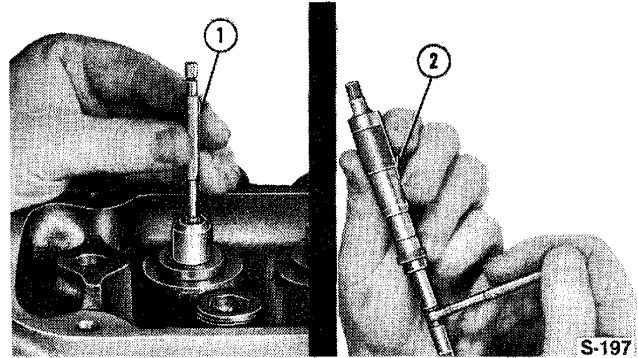

Figure 16
- Using a telescope gauge and micrometer, determine the valve to guide clearance, Figure 16. Measure the guide bores at right angles to the engine axis, and subtract the valve stem diameter. If the clearance exceeds the specified limits, see "Specifications" — Chapter 3, ream the valve guide to fit the next oversize valve.